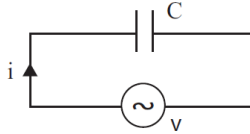

Figure 2.17
In this circuit, an alternating voltage is applied across a pure capacitor(C) is shown in Fig.2.17